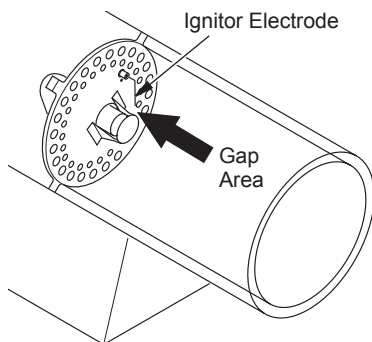

Figure 12 - Clearance Between Ignitor Electrode and Target Plate
7. Set gap between ignitor electrode and target plate to 0.17" (43.18 cm) (see Figure 12).